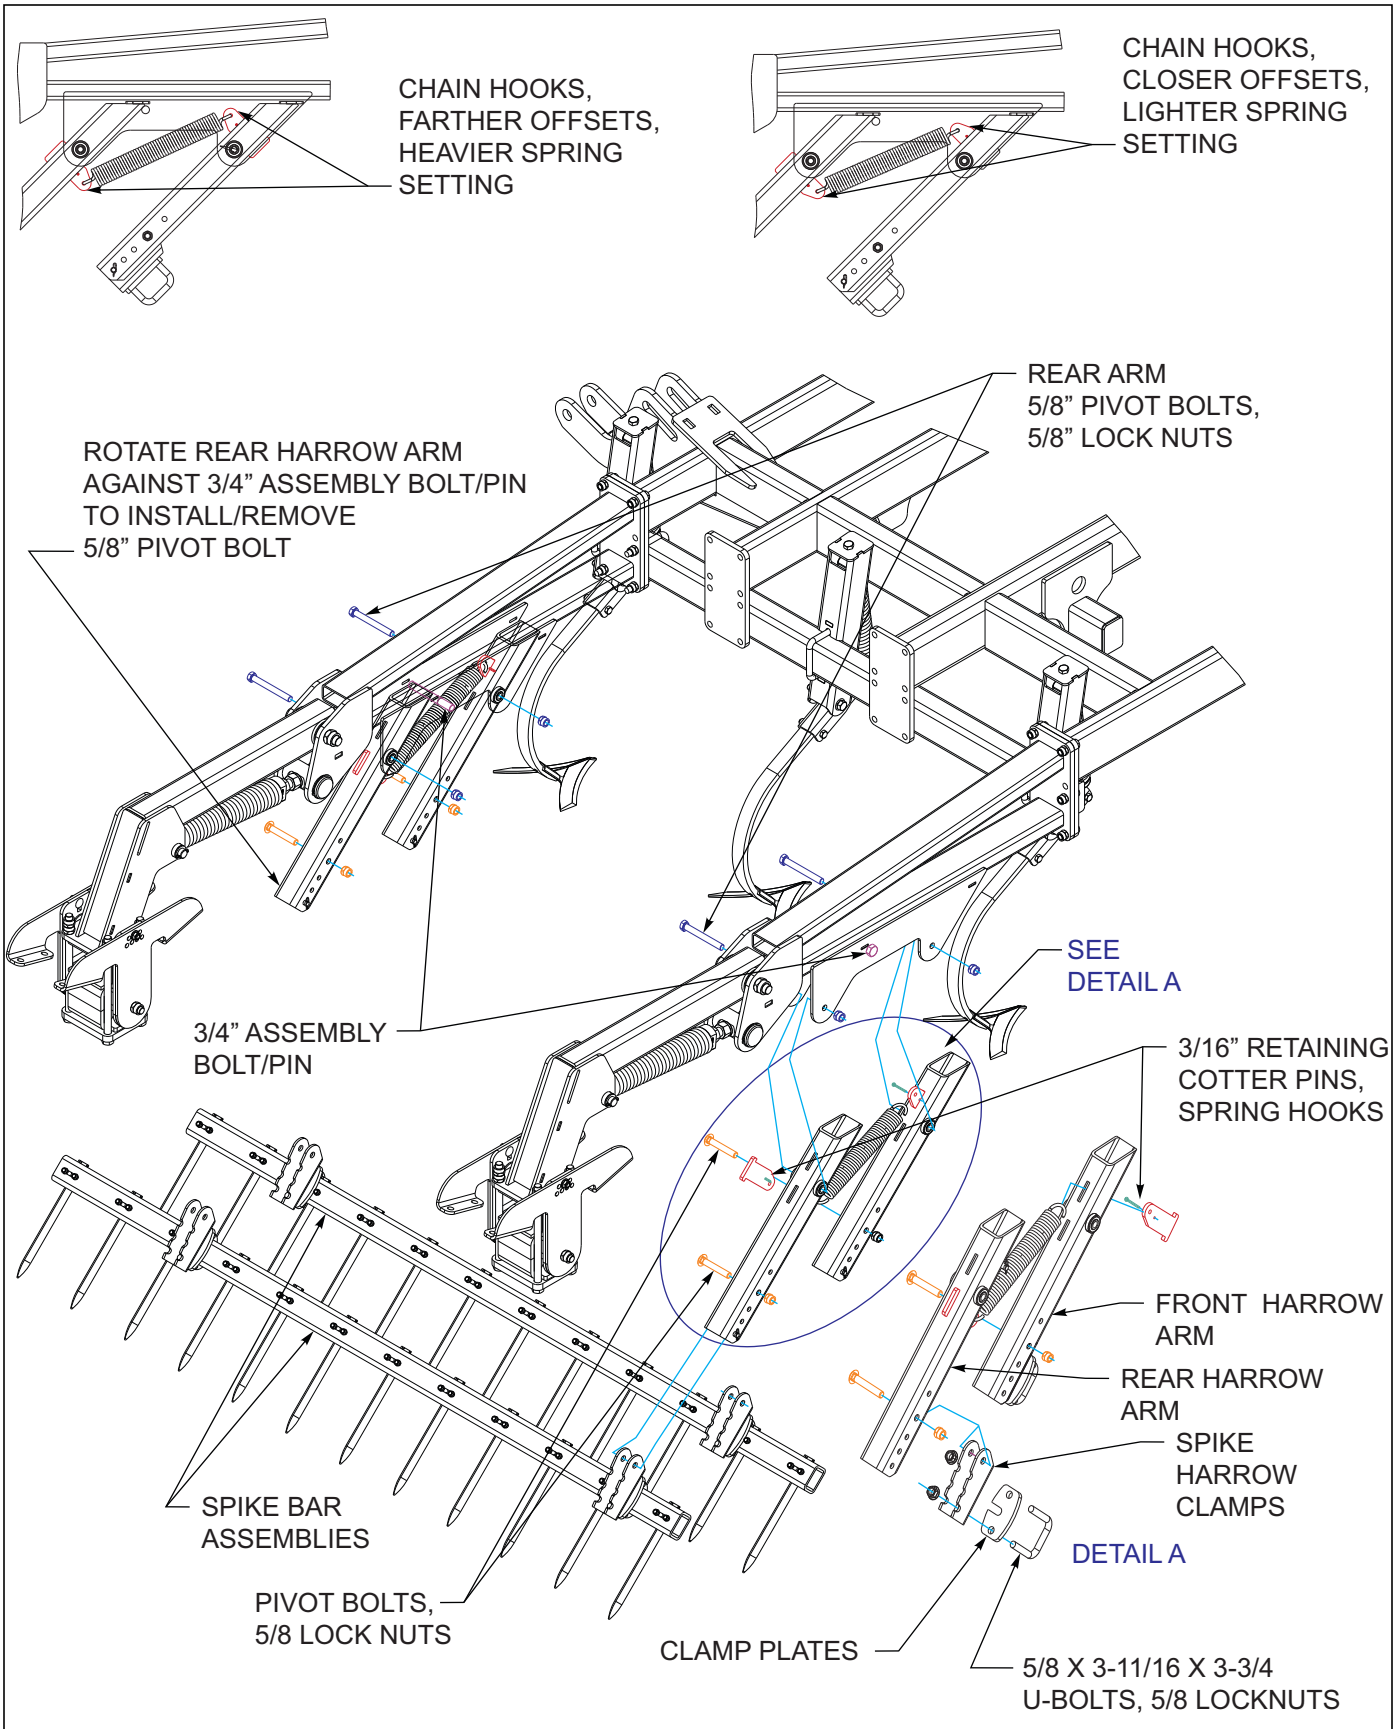

Figure 4-31: Spike & Double Reel Adjustments
4. The chain hooks on the spike bar arms are offset to allow the spring pressure to be changed See Figure 4-31.. The heavier setting should work for most conditions. To change the spike harrow spring pressure, first remove the pivot bolt through the spike harrow clamp and lower both spike bars for each section to the ground. Insert a $\frac{3}{4}$ " bolt/pin (not provided) through the harrow arm assembly hole.